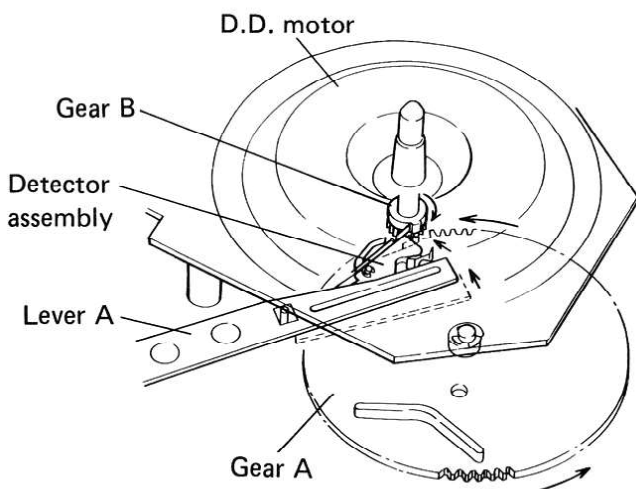

Fig. 8-8
4. Once the motor commences to rotate, the motor pinion gear (gear B) catches the claw of the detector assembly, and gear A and gear B engage each other, resulting in gear A rotating in the counter-clockwise direction (Fig. 8-8).